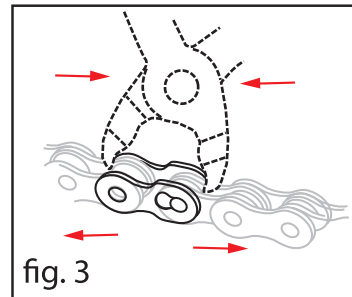

fig. 3
3. Use KMC MissingLink Connector tool to lock link plates into place (fig.3)